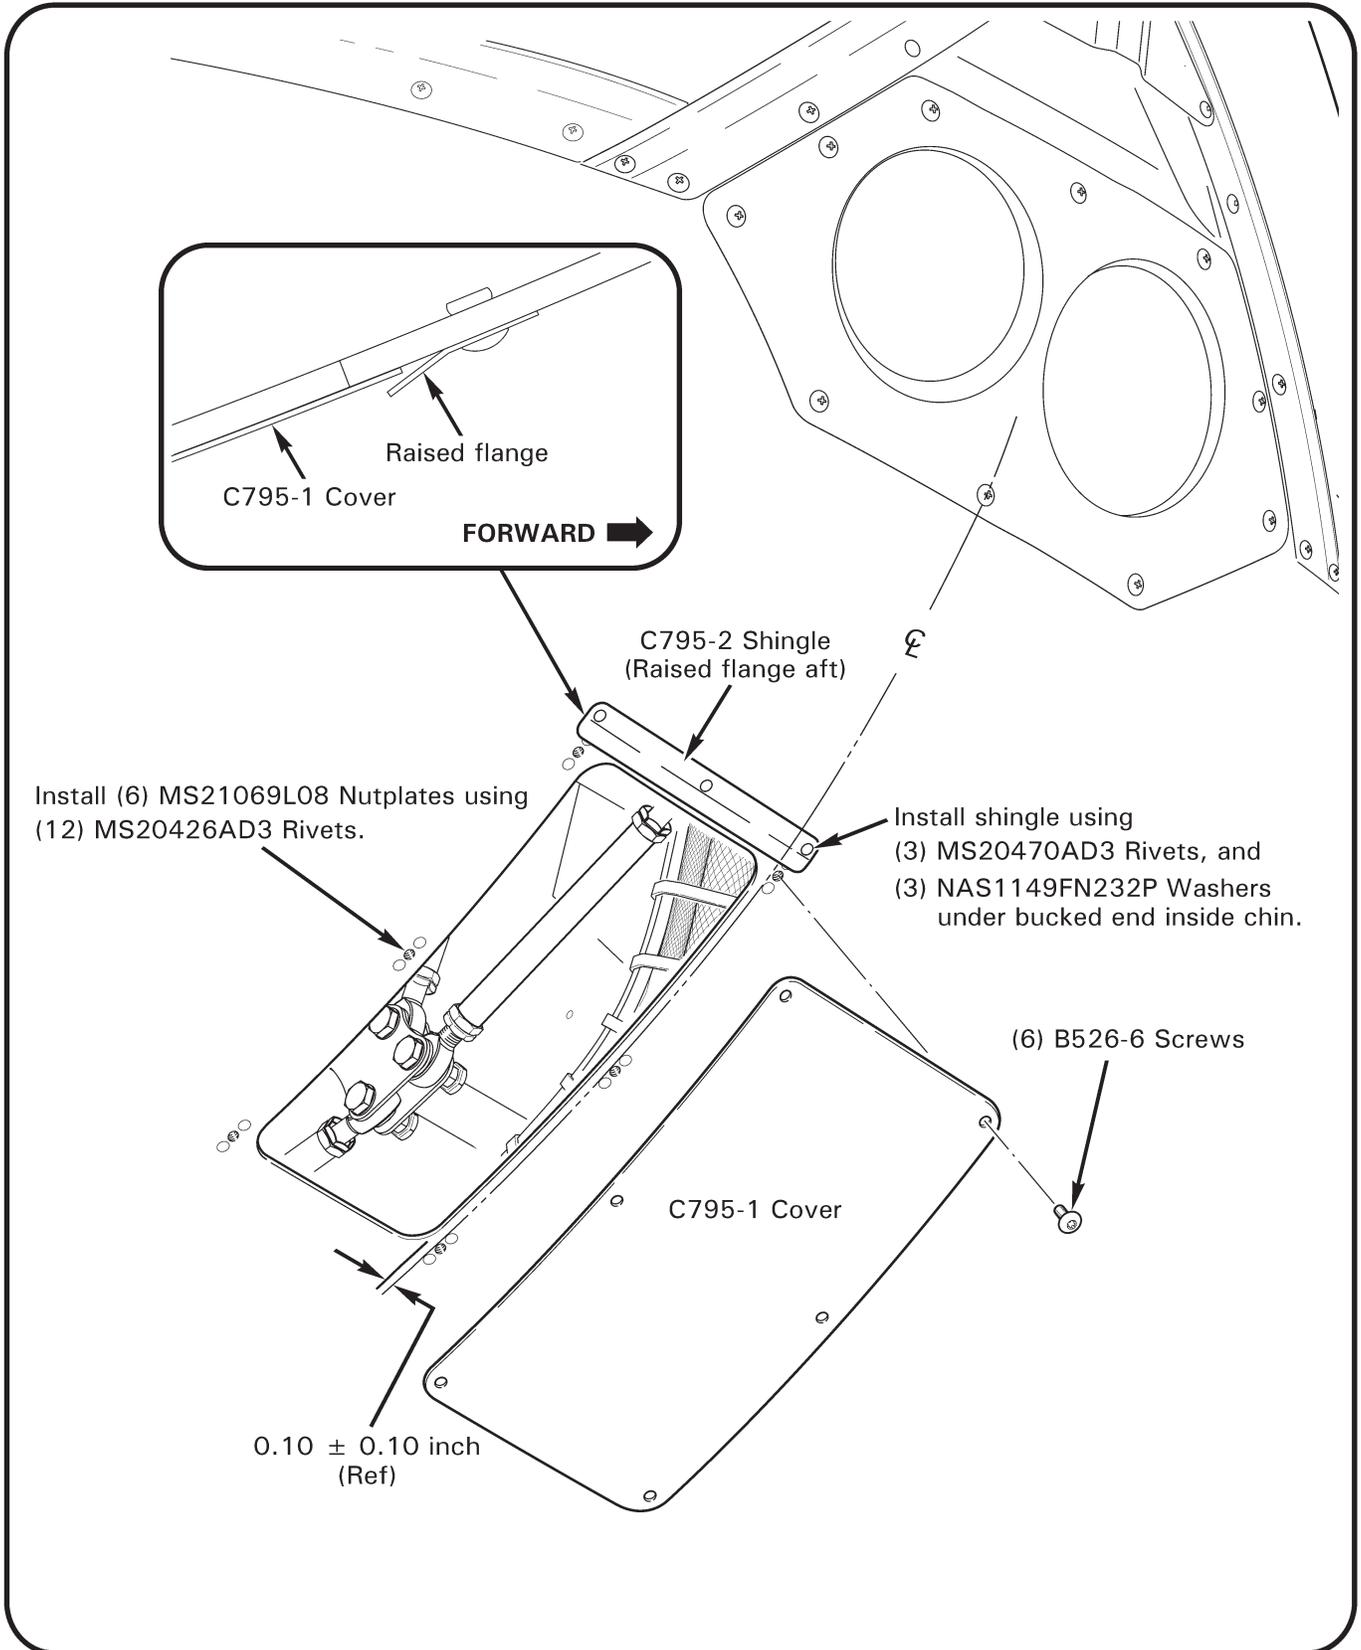

FIGURE 3 R66-series installation
- b. **For R66-series:** Refer to Figure 3. Position (6) MS21069L08 nutplates in place on exterior with screws temporarily inside chin. Using nutplates as template, drill (12) 0.097–0.102 inch diameter rivet holes. Remove nutplates & screws and create 0.170–0.190 inch diameter, 100° countersinks on outside of chin. Install (6) MS21069L08 nutplates using (12) MS20426AD3-4 rivets.
9. Ensuring raised flange is aft, install C795-2 shingle using (3) MS20470AD3-4.5 rivets, with (3) NAS1149FN232P washers under bucked end (inside chin). Clean up debris.
11. Install C795-1 cover using (6) B526-6 screws, with forward edge underneath shingle flange.